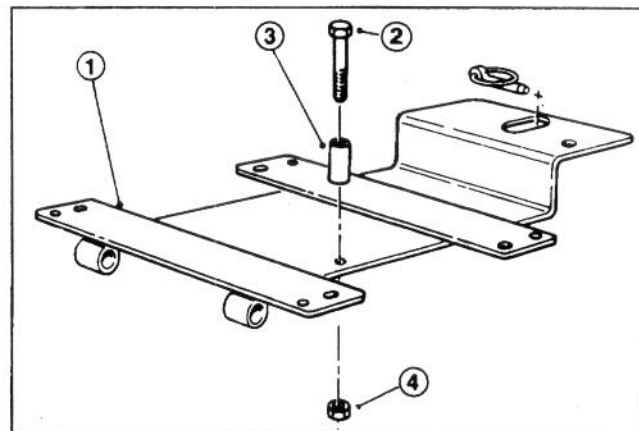

Figure 11
10. Assemble spacer to hex head capscrew, insert capscrew into hole in the seat support and secure capscrew and spacer with a locknut at the bottom of the seat support (Fig. 11).